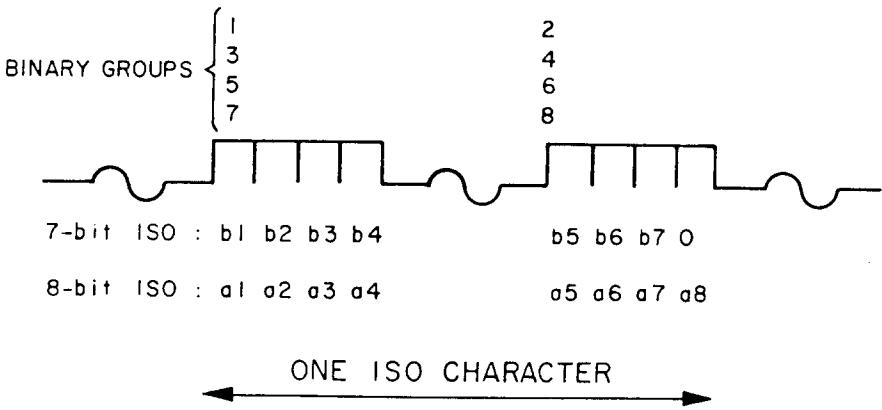

Fig. 2
3.4.1 If an 8-bit character set conforming to ISO 646-1983 and ISO 2022-1982 is signalled by the binary group flag bits 43 and 59, the characters should be inserted in accordance with Fig. 2. Information carried by the user-bits is not specified.
4.3.1 If an 8-bit character set conforming to ISO 646-1983 and ISO 2022-1982 is signalled by the binary group flag bits 55 and 75, the characters should be inserted in accordance with Fig. 2. Information carried by the user-bits is not subject to any regulation.